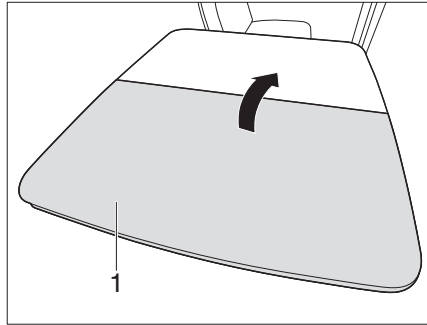

Fig. 113 Fold in the folding table
- Fold in the table half (Fig. 113,1).